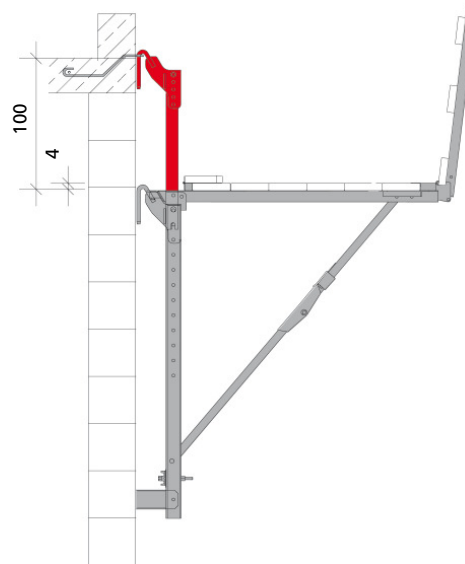

Fig. 15.2
2. Plug in the height adjustment 100 KAB from above and equip it with a loop or shoe adapter. Note that you must have the double amount of adapters available (Fig. 15.2).